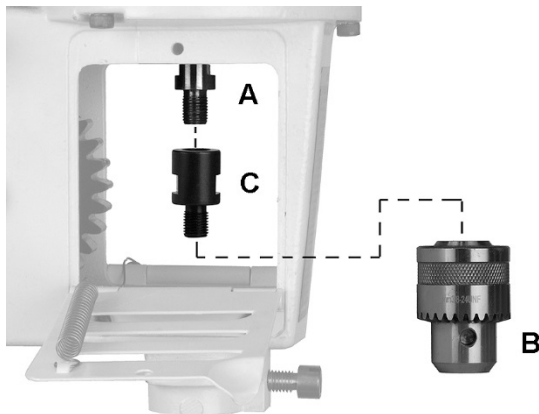

Figure 10-5
1. Open side door and place a 10mm wrench on flat indents of motor spindle (A, Figure 10-5).
2. Insert chuck key into hole to use as leverage to unscrew chuck (B, Figure 10-5) while holding spindle stationary. Remove chuck from spindle.
3. Thread adaptor (C, Figure 10-5) onto motor spindle (A, Figure 10-5). Tighten using 10mm and 14mm wrenches respectively on flat sides of motor spindle and adaptor.